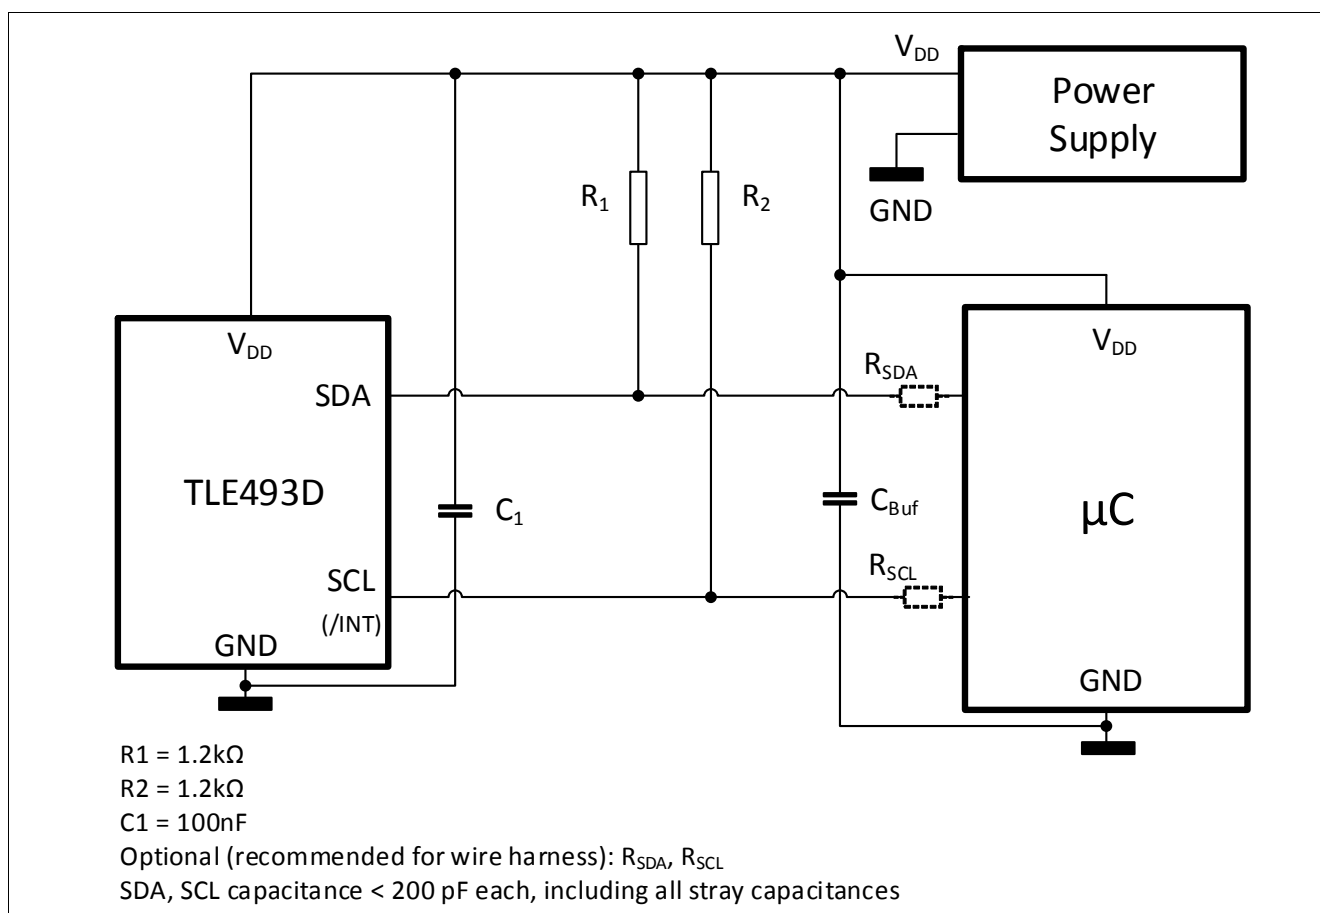

Figure 5 Application Circuit with external power supply and µC
At Power Up, SDA and SCL shall be pulled to V_{DD} using R1 and R2 of Figure 5 and not be driven to low by any device or μ C on SDA and SCL.
1) Currents at pull up resistors (Figure 5) needs to be considered for power supply dimensioning.